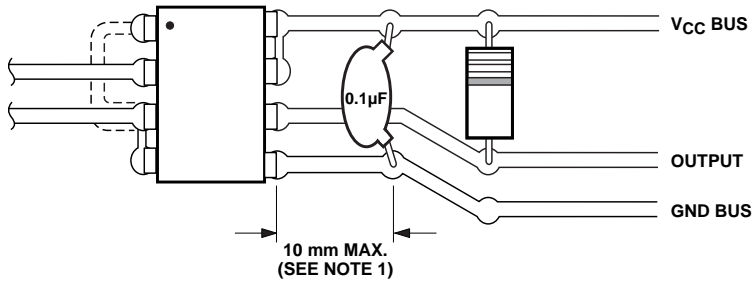

Figure 15. Recommended printed circuit board layout.
1. Bypassing of the power supply line is required with a 0.1 μF ceramic disc capacitor adjacent to each optocoupler, as illustrated in Figure 15. Total lead length between both ends of the capacitor and the isolator pins should not exceed 10 mm.
assumes that good board layout procedures were followed to reduce the effective input/output capacitance as shown in Figure 15.